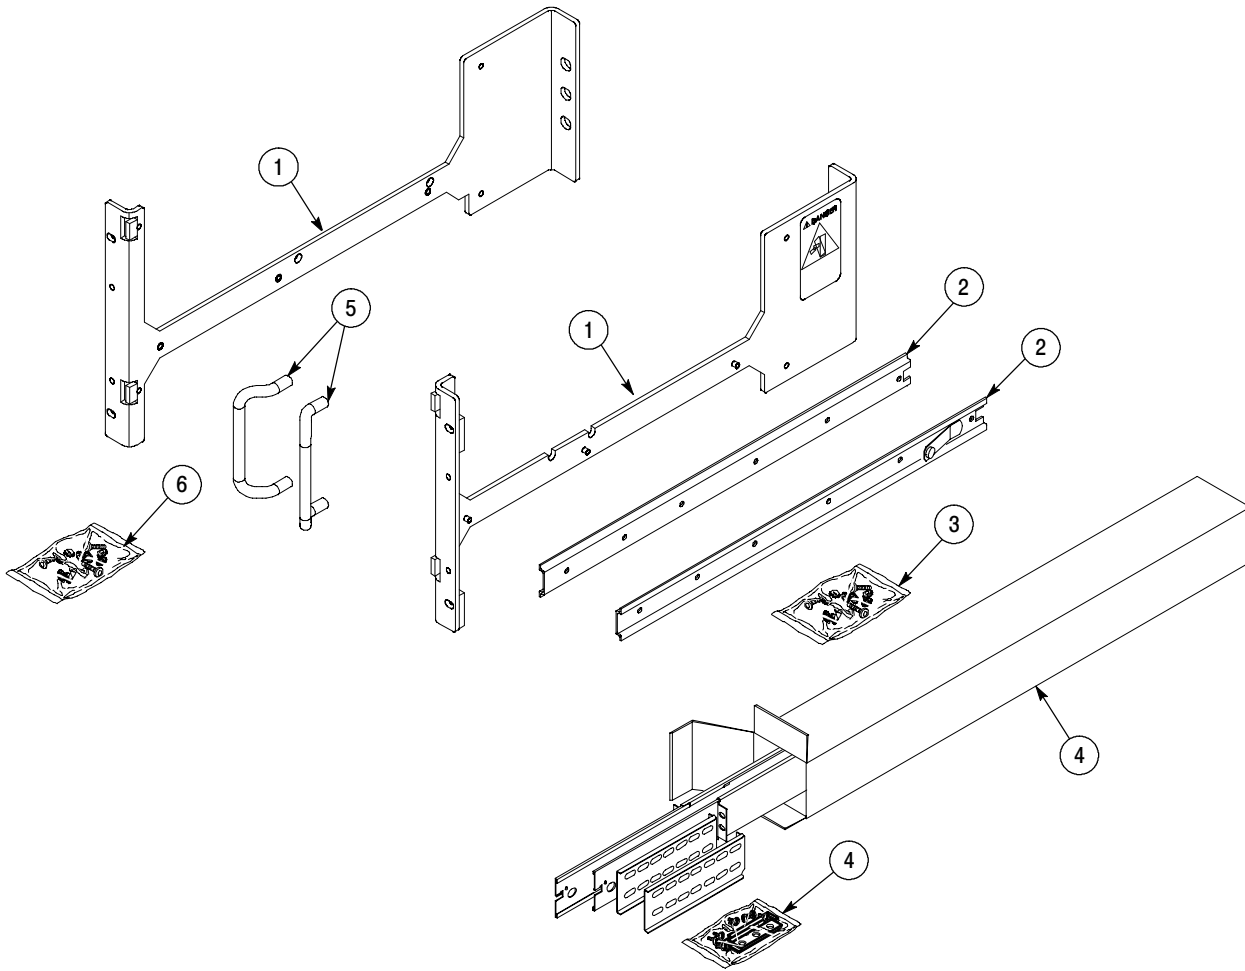

Figure 3: Rackmount kit parts
NOTE. *The slide-out track assemblies that are included in this kit (Figure 3 on page 8) come partially assembled with the inner tracks inside of the outer tracks. Leave them partially assembled to simplify their installation and to avoid accidental swapping of their inner tracks. (See WARNING on the previous page.)*
2. Mount the slide-out track assemblies, using the slide drawer hardware listed in the kit parts list, Figure 3:
- Install the optional front trim panel if the uncovered blank space below the rack-mounted instrument is undesirable. Use the four 10-32 x 0.750 oval head phillips drive screws with four nylon washers to secure the front trim panel to the rack frame. See Figures 3 and 5 on pages 8 and 11.